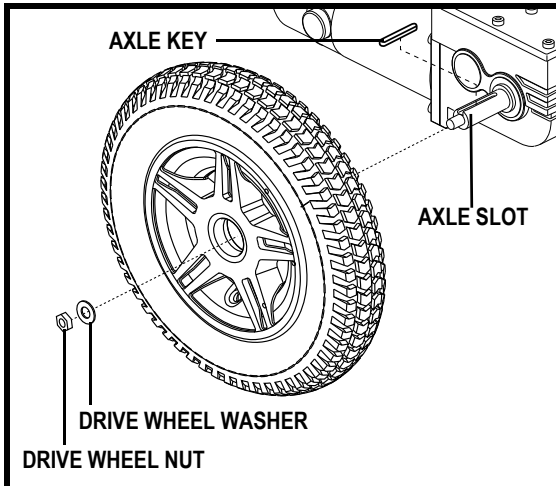

Figure 22. Jazzy 600 Drive Wheel
4. Remove the drive wheel nut and washer from the axle. See figure 22.
6. Remove the screws from the rim assembly and separate the front and rear rim. See figure 22.